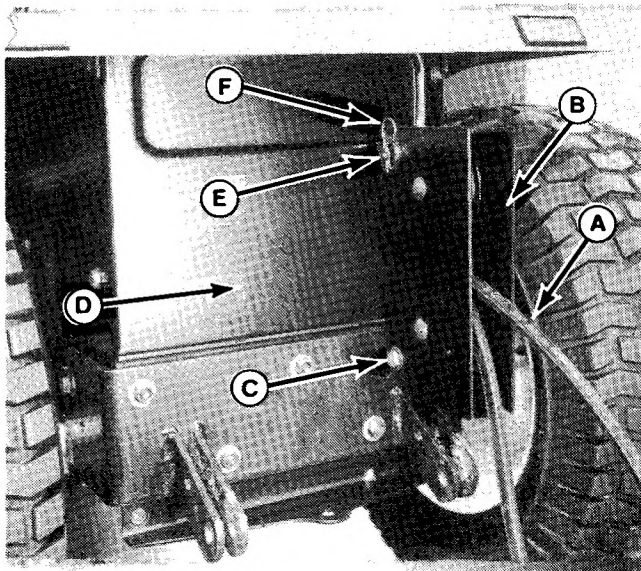

Figure 8.
6. Pull belt (A, Figure 8) through idler box assembly (B). Slide idler box over bolts and nuts (C) and secure to wrapper (D) with clevis pin (E) and spring clip (F).
8. Remove spring clip (F, Figure 8) and clevis pin (E) from idler box assembly (B). Lift assembly off bolts and nuts (C) and pull forward to clear belt (A). Install pin and spring clip on assembly for storage.